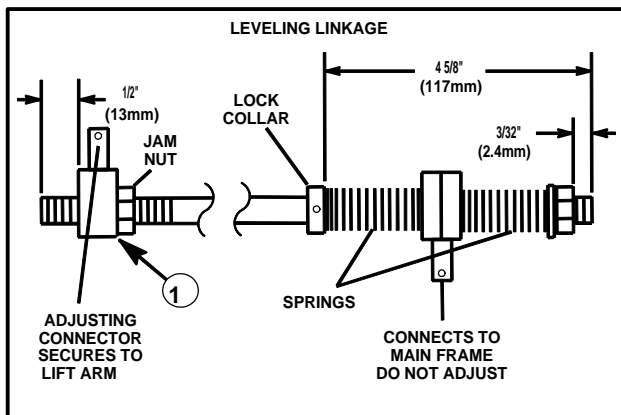

Figure 17
- The dimensions in figure 17 are factory preset and the leveling linkage should not need adjusting. After some time the linkage may require some adjusting. If it is required, only make adjustments on the adjusting connector (See Fig. 17).
- On the end of the leveling rod with the springs and lock collar, the dimensions are factory set and should never have to be changed. (See Fig. 17)